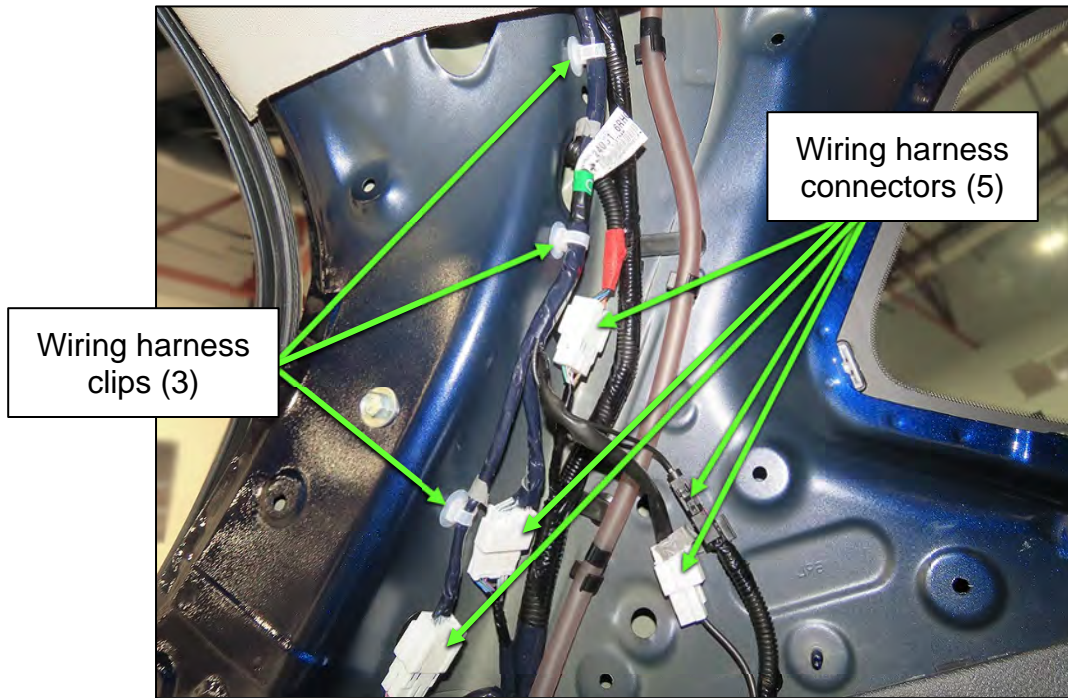

Figure 5
10. Disconnect the five (5) wiring harness connectors shown in Figure 5.
11. Detach the three (3) wiring harness clips shown in Figure 5.